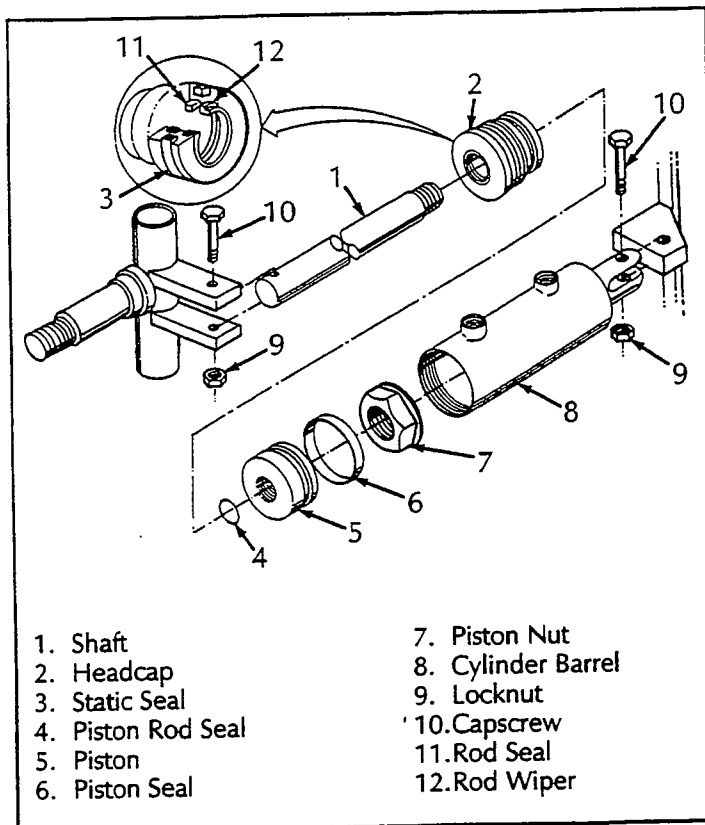

Figure 4-14: Steering Cylinder
4.12 Steering Cylinder (Figure 4-14)